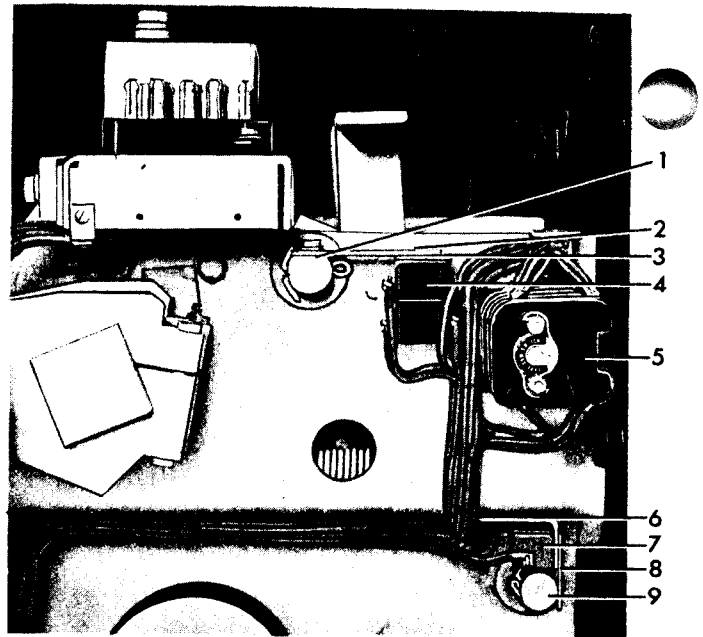

Figure 12. (8034474) Positive Interlock Switch
Refer to Figure 12. With the positive interlock in the reset, or normal position the clearance between the interlock switch arm (2) and the switch mounting plate (3) should be 1/32" or less. This can be adjusted by bending the switch arm.